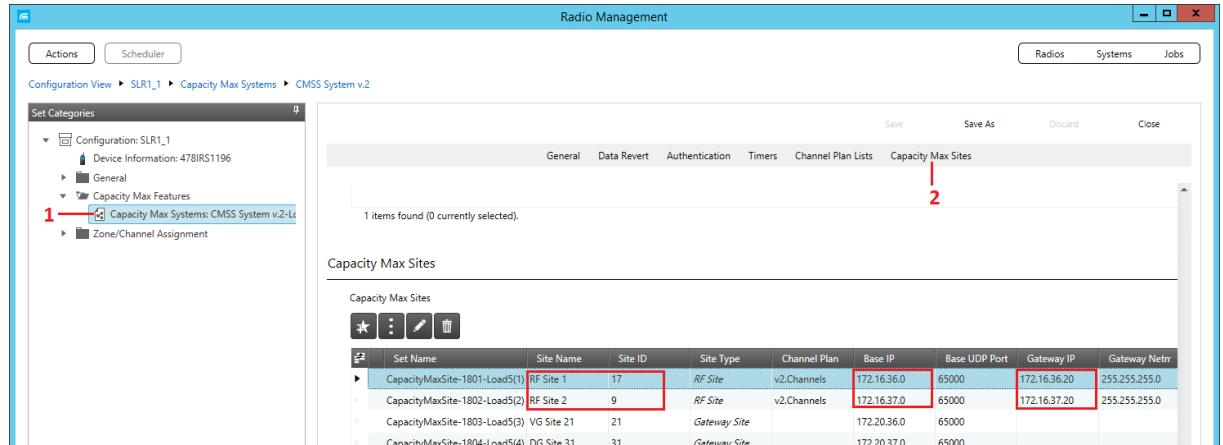

Figure 15: Opening the system sites
4. In the left pane, expand **Capacity Max Features** and click **Capacity Max Systems** (Figure 15, step 1).
5. In the right pane, click **Capacity Max Sites** (Figure 15, step 2).
Site ID	The site ID. This setting must match the Site ID value in the Radio Management tool (Figure 15).
Base IP	The base IP address of the RF site. This setting must match the Base IP value in the Radio Management tool (Figure 15).
Router IP	The IP address for the site router. This setting must match the Gateway IP value in the Radio Management tool (Figure 15).